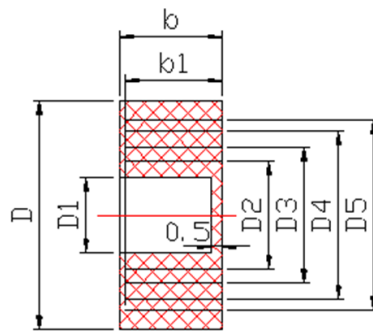

Fig 3
7.2.6 External diameter of the cable should fit bore diameter of the seal ring (Figure 3). The min diameter of cable is D1, max D5, seal ring is of Nitrile rubber NBR, specification and dimension see table 4(concentric-ring of seal gasket can be stripped off to fit inner diameter of incoming cable). The diameter gap should not exceed 1mm. Clamp the connection plug and ensure that there is no clearance between seal ring and power cable as well as between seal ring and connection box body, otherwise the motor will lose its explosion-proof function.